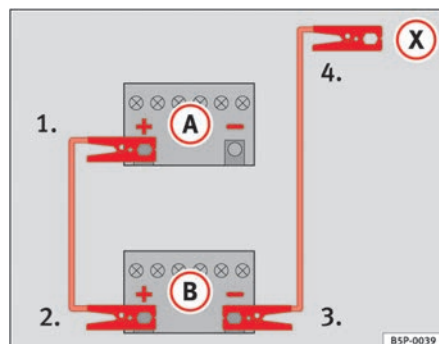

Fig. 158 How to connect the jump leads
In ⇒ fig. 158, the flat battery is **(A)** and the charged battery **(B)**.
1. Connect one end of the red jump lead to the positive ⇒ fig. 158 **(+)** terminal of the vehicle with the flat battery ⇒ ⚠.